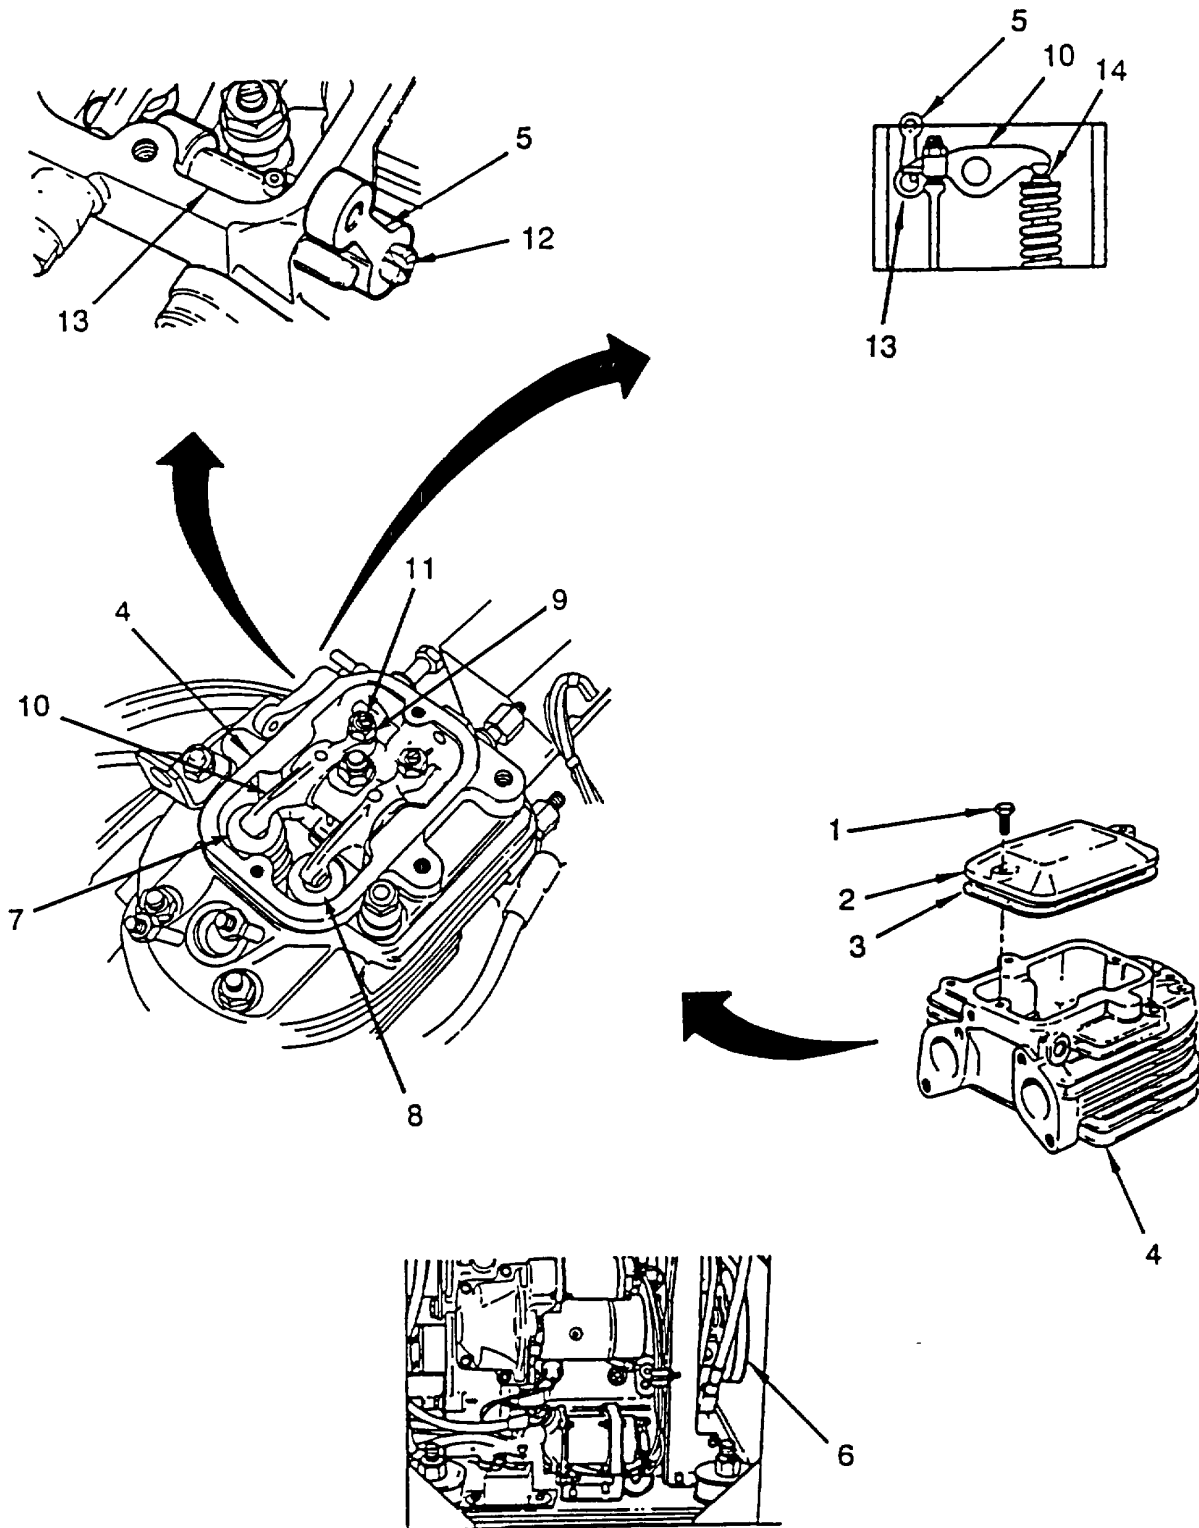

Figure 5-24. Intake and Exhaust Valves and Decompression Lever Adjustment
(1) Removal. (Refer to Figure 5-24).
- (a) Remove two screws (1), cover (2), and gasket (3) from cylinder head (4).
- (b) Clean excess gasket material (3) off of cylinder head (4) and cover (2).
(2) Adjustment.